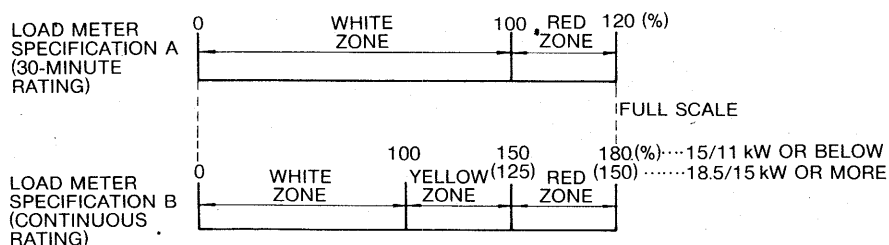

Fig. 4.2 Specifications of Load Meter Scale
4. Adjust the load meter so that its needle indicates the setting scale during rapid acceleration. When using a voltmeter (internal impedance of 10 k Ω) as a load meter, select shunt connector L1 of the load meter and make adjustments by the procedures stated above. Specifications of the load meter setting scale are shown in Fig. 4.2.